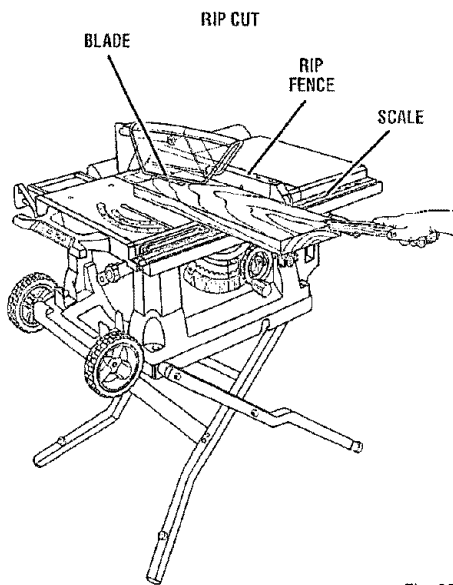

Fig. 38
**NOTE:** To prevent unauthorized use, remove the switch key as shown in figure 38.
See Figure 38.